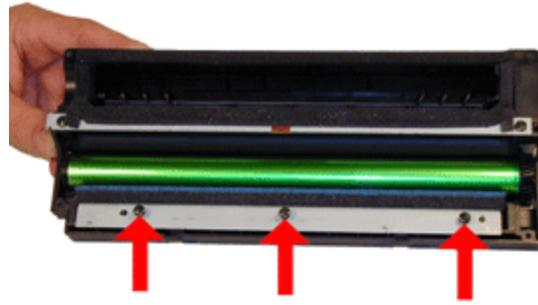

FIGURE 21
20. Install the PCR cleaner Assy. and three screws. See Figure 21